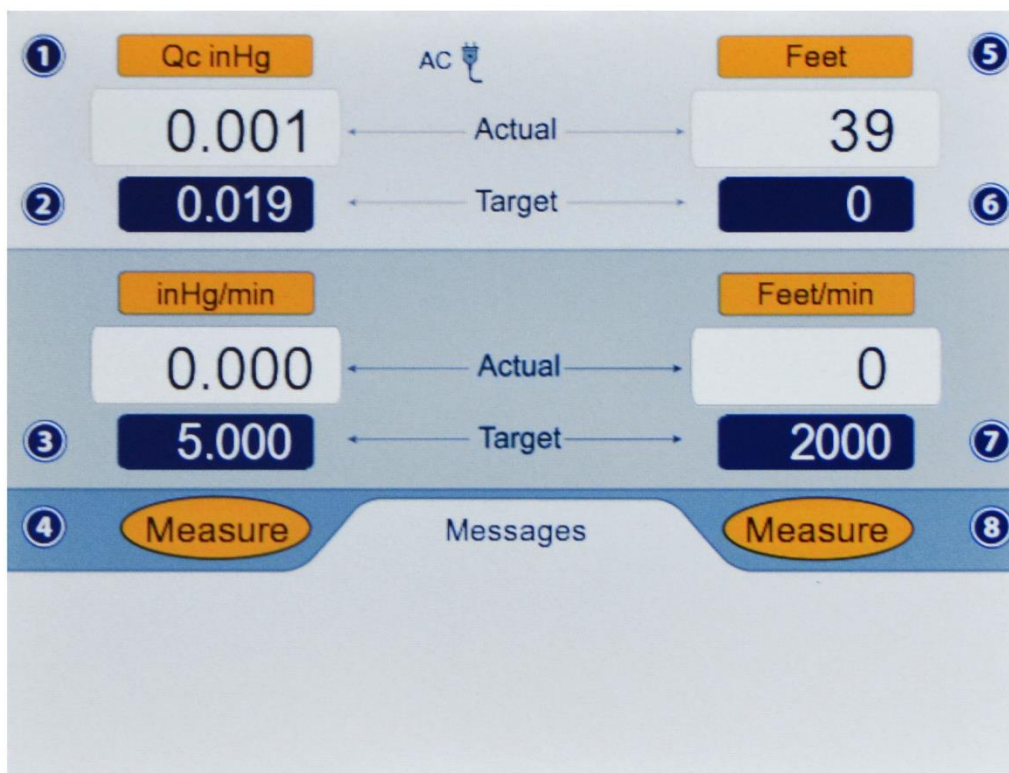

Figure 3.4 : Select QcinHg
For example, if units of QcinHg is to be selected, in the 'Pitot units (1)' screen, press '**6**'. The Lower section will blank out and the Upper section will appear as shown in Figure 3.4 below.